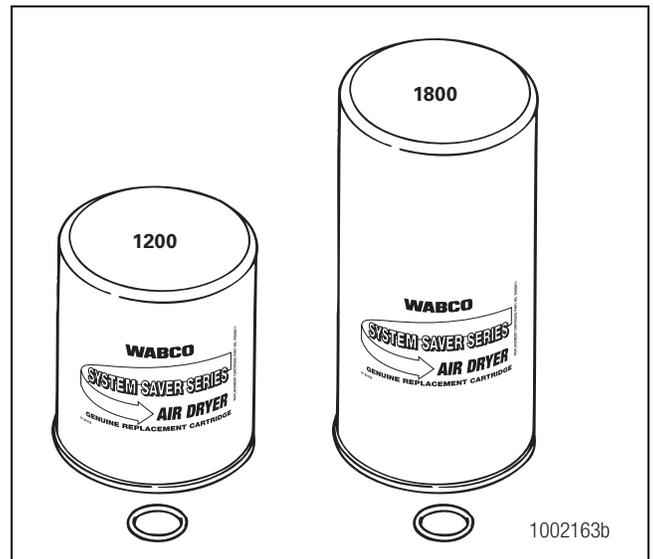

Figure 2.1
1. Replacement kit contains one cartridge and one O-ring. Figure 2.1.